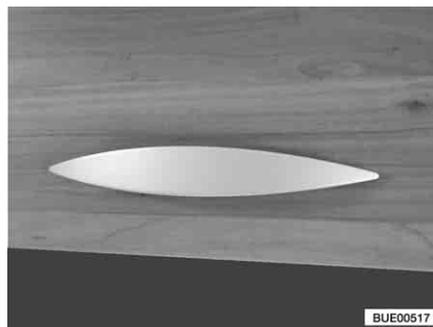

Fig. 42 Furniture flap with handle (example)
- Pull handle (Fig. 42) until furniture flap is open.